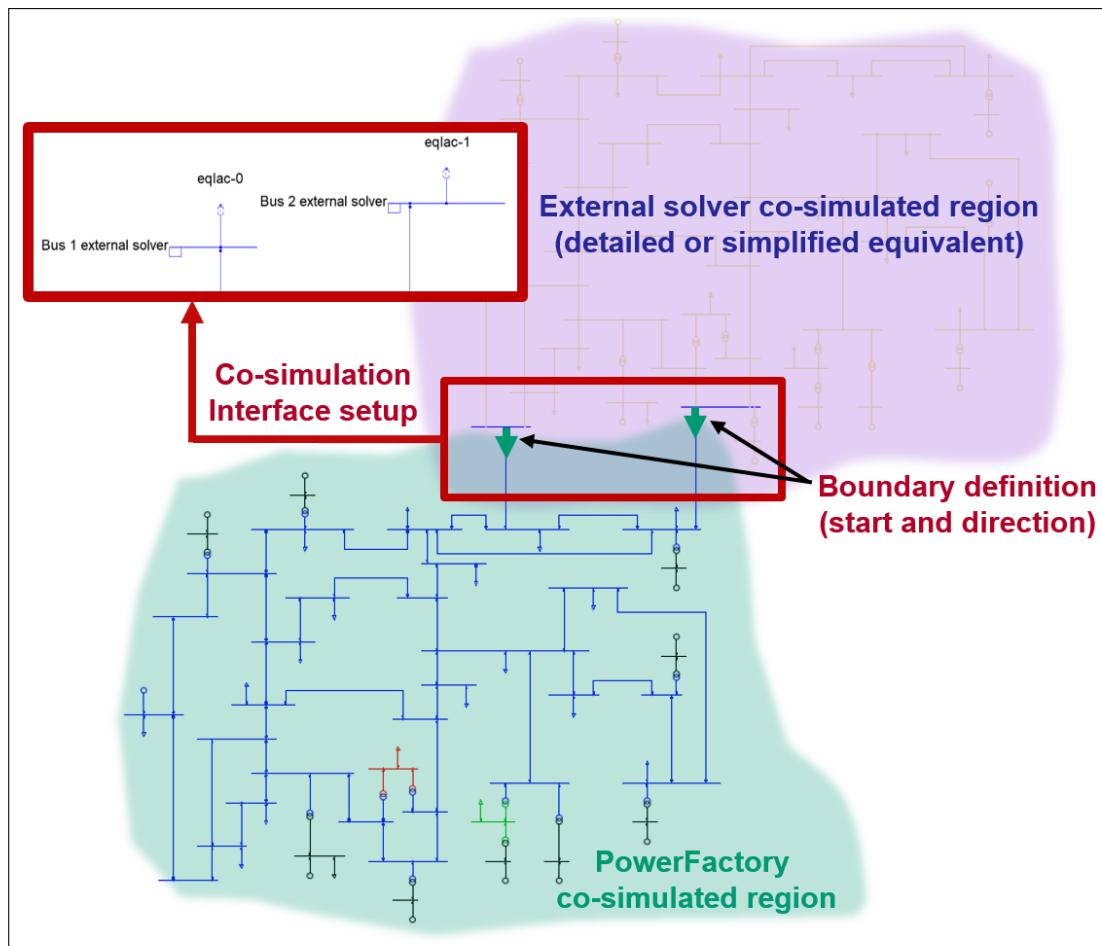

Figure 29.11.4: Co-simulation with external solver - two area power system example
*PowerFactory* automatically performs a network reduction of the power system *regions* which are to be simulated externally and also configures necessary voltage or current injection sources at the co-simulation interface, as shown in figure 29.11.4. It is important to underline that the *interface elements* must be a set of AC lines. The network reduction can be applied directly on the base network (existing network model is permanently changed) or using a network variation for flexible management of the power systems model (possibility to revert to the original network).